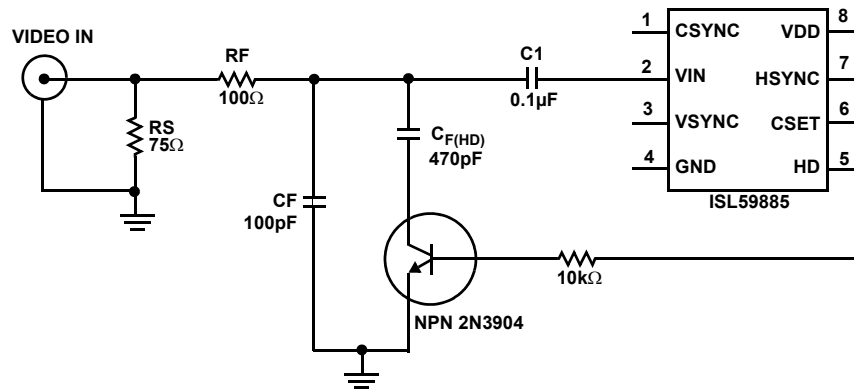
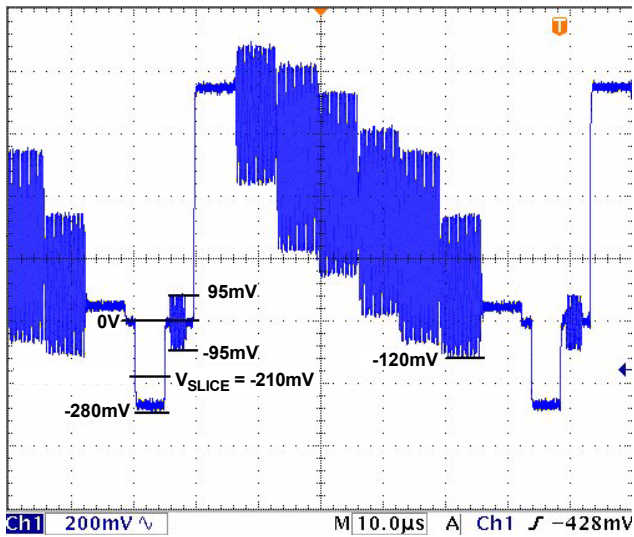
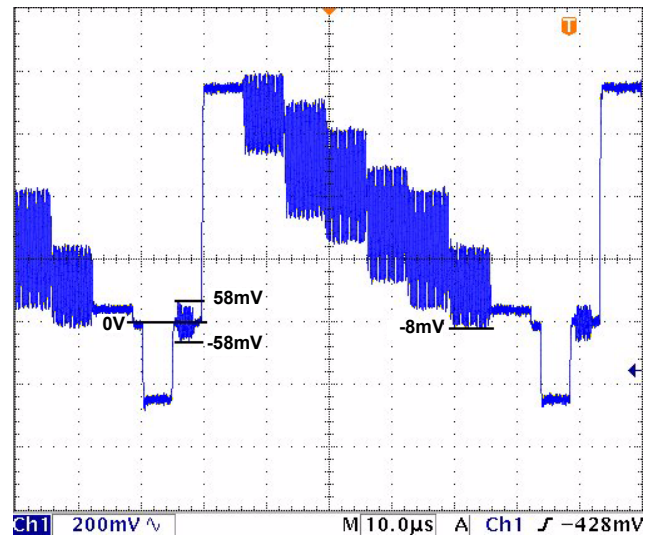

FIGURE 3. FILTER CIRCUIT ALLOWING RELIABLE SYNC DETECTION OF HD AND NTSC VIDEO
FIGURE 4. VOLTAGE LEVELS OF NTSC VIDEO
FIGURE 5. ATTENUATED INPUT OF NTSC SIGNAL
The ISL59885 is a sync separator which features both HD and NTSC detection. An output, labeled HD, is provided which responds to the type of input - high for NTSC and low for HD. This external pin can be used to insert a low-pass filter into the sync separator path preventing false sync pulses in composite video. The circuit is shown in Figure 3. When composite signal (NTSC/PAL) is detected, the filter is enabled by applying a logic high to the base of the transistor. When component signal (HD) is detected, the filter is disabled by having the HD pin at a logic low state. Although the transistor is disabled during HD, a low pass filter is still present to filter out any noise present at the input.
The cut-off frequency for the filter is $\frac{1}{2\pi(R_F)(C_{FT})} = 2.79\text{MHz}$, where C_{FT} is the total capacitance of C_F in parallel with $C_{F(HD)}$, shown in Figure 3. Computing C_{FT} with $R_F = 100\Omega$ and $C_{FT} = 570\text{pF}$, the 3.58MHz color burst, for example, is attenuated to 60% of its original 190mV size (Figure 4) while passing 15kHz sync signals without appreciable attenuation. This is enough headroom to prevent false trigger since the slice level is 70mV and the new color burst amplitude is 116mV (Figure 5). Note that the lowest color subcarrier level in this example was also attenuated from -120mV to -8mV. If we use a smaller C_F , the color burst will attenuate less. Ideally we want to maximize C_F to attenuate more of the signal, but the cost of a